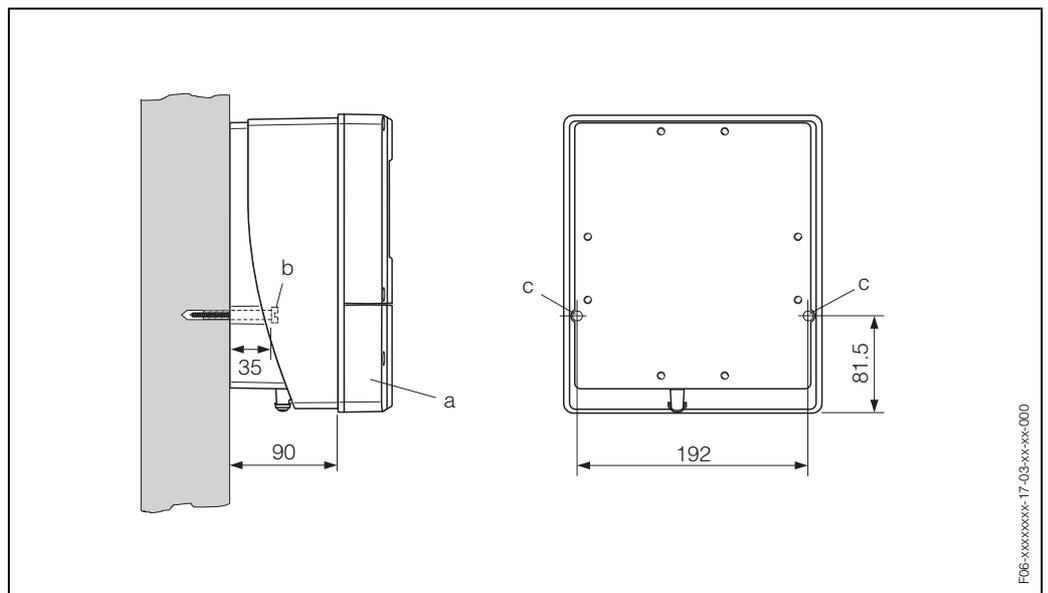

Fig. 23: Mounted directly on the wall
1. Drill the holes as illustrated in Fig. 23.